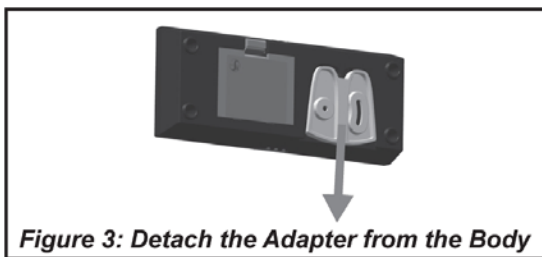

Figure 3: Detach the Adapter from the Body
- Detach the adapter from the body of the remote control; see Fig. 3.